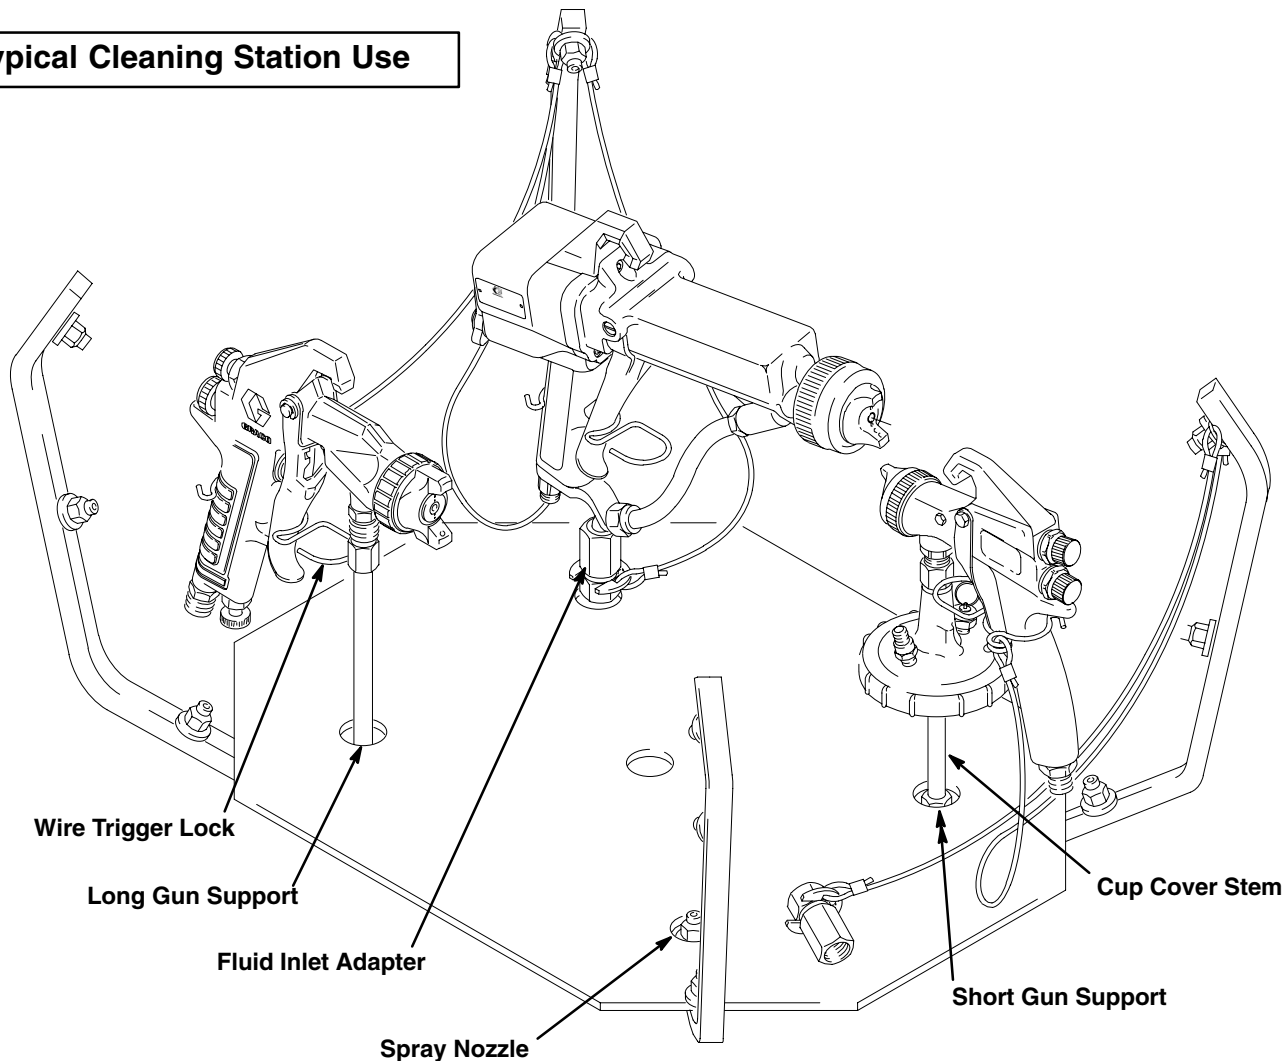

Fig. 3
3. To lock the gun trigger in the open position, install the wire trigger lock around the gun handle and trigger as shown in Fig. 3.
(See Fig. 3, page 14)
Set the cup cover stem over the short gun support as shown in Fig. 3.
Set the gun fluid inlet over the long gun support as shown in Fig. 3.
3. Screw the fluid inlet adapter onto the PRO-gun fluid inlet as shown in Fig. 3.
Set the pressure cup over the spray nozzle. Refer to Fig. 3.